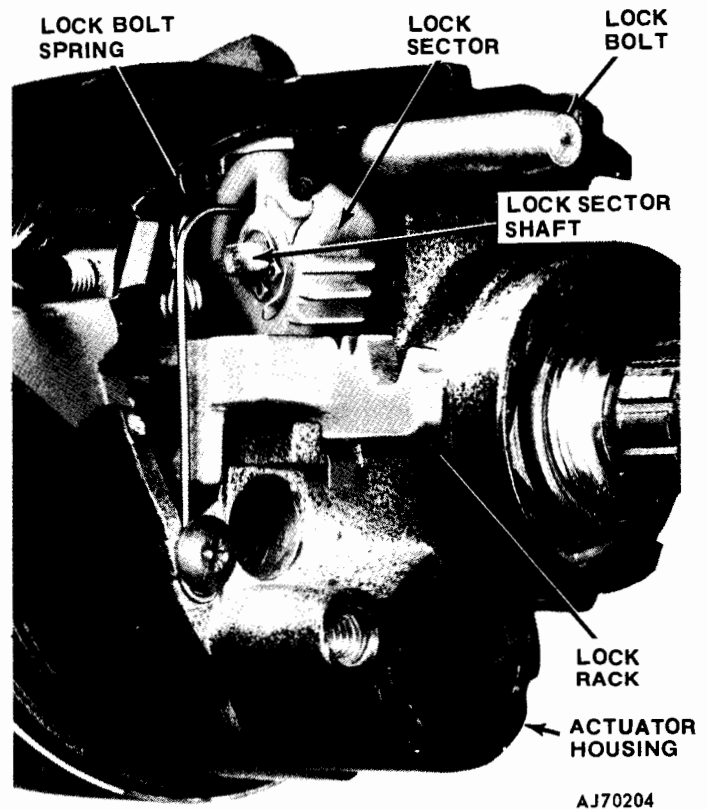

Fig. 11-48 Position of Lock Sector Tension Spring
(16) Guide upper housing over steering shaft and lock rack. Align lock shoes with teeth in upper support.
(17) Align upper housing and upper support pivot pin holes and install pivot pins using fiber mallet or brass drift.
(18) Install lock shoes, lock shoe springs, tilt bumpers, and lockpin in upper housing.
(19) Install lock sector and sector shaft. Large tooth on sector must engage large slot in lock rack. Install sector shaft retaining snap ring.
(20) Hook lock sector tension spring on lockpin, engage sector, and install spring retaining screw (fig. 11-48).